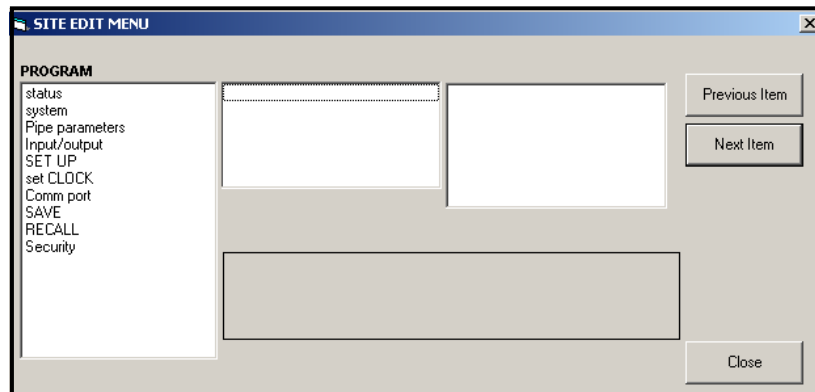

Figure 36: The *Site Edit Menu* Window
5. To open a particular menu, double-click on that menu on the tree. For example, if you double-click on the Site Edit Menu, a window opens similar to Figure 36 below.